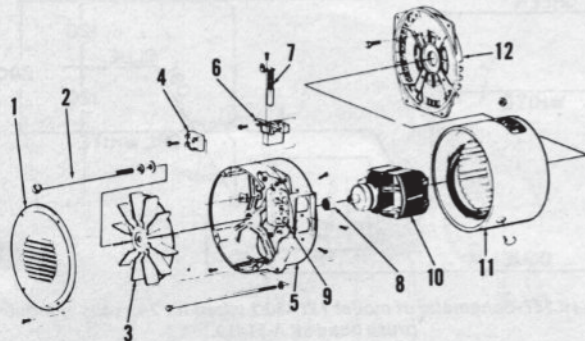

Fig. HL130—Exploded view of models 128A10-1B, 129A15-1B, 130A22-1B and 131A30-1B. Other models are similar.
BRUSHES. Brush length and condition should be checked after every 1000 hours of operation. Brushes can be inspected after removing brush head cover (1—Fig. HL130), rotor bolt (2) and fan (3). Note: do not attempt to hold rotor with fan to remove rotor bolt. Loosen screws retaining brush holder and slide out brush holder. Brushes must be renewed if brush length is shorter than $\frac{3}{8}$ inch as shown in Fig. HL131. Be sure to reinstall a used brush so that brush curvature matches collector ring. During reas-
DISASSEMBLY AND REASSEMBLY. Refer to Fig. 130 for an exploded view of generator and to appropriate schematic. Be sure to mark wiring so that it may be correctly connected for reassembly. Wire should be handled carefully to prevent damage to wire, insulation or connections. Generator rotor (10—Fig. HL130) has a taper fit with engine crankshaft and should be removed with a suitable tool.